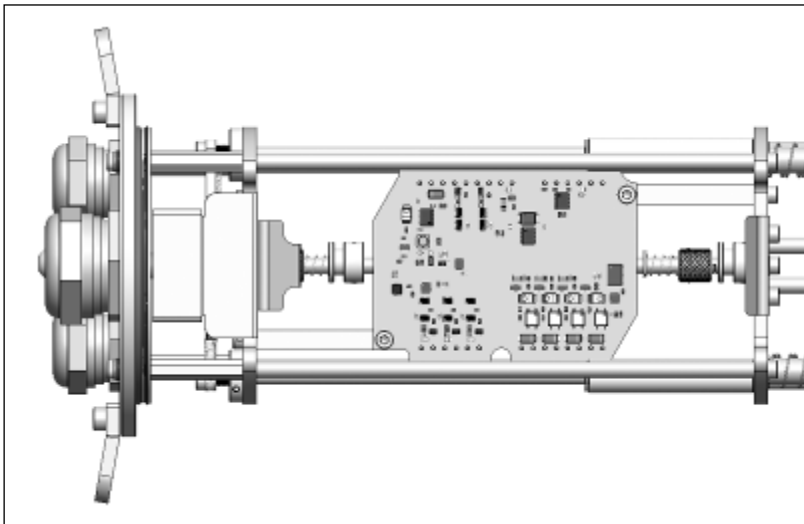

Figure 41: Mounting of the industrial PIF (top view)
5. Fix the industrial PIF with the screws (M3x5) as shown in **Figure 41**.